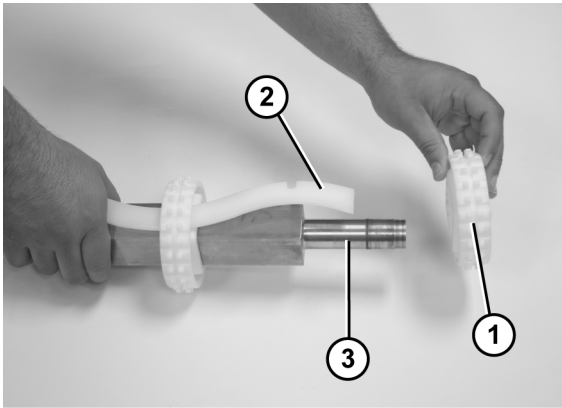

**Figure 72**
9. Slide the 3 hole flange with bearing (**Figure 72, item 1**) and flanged puck (**Figure 72, item 2**) off the drive spindle.